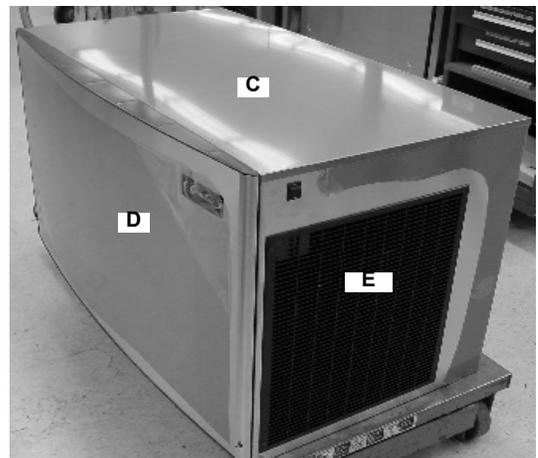

Figure 50.
68. Replace the top cover (C) and the front panel (D). Attach the louvered panel with (4) black, hex head screws (Figure 50).